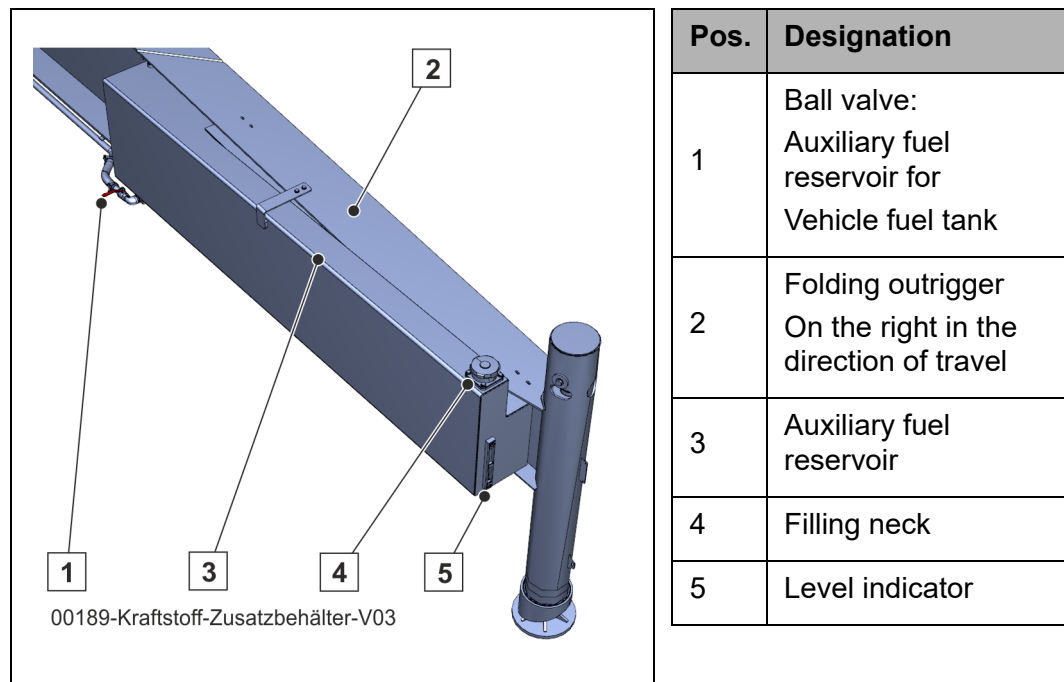

Fig. 45 Example: Auxiliary fuel reservoir (3)
2. Check the fuel supply of the optional auxiliary fuel reservoir on the level indicator e.g. (5) (**Fig. 45**).
The connection between the auxiliary fuel reservoir and the vehicle fuel tank must be permanently separated by the ball valve (1) (**Fig. 45**).